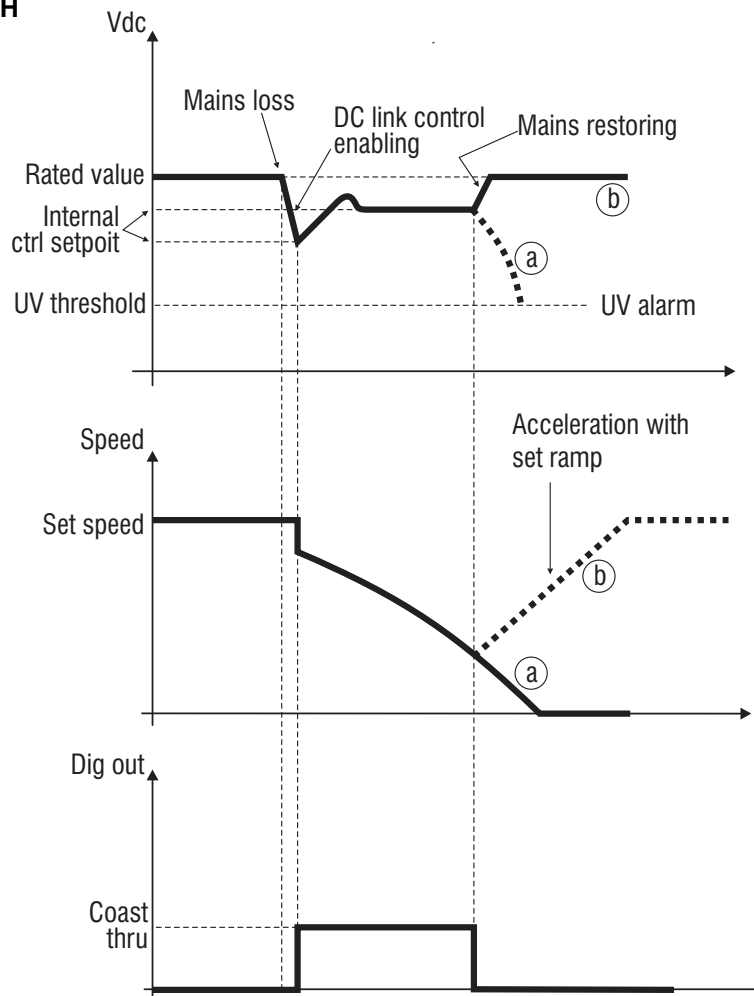

Figure 7.6.11: Coast through
P.343 = 0 Disable	A mains power loss, will trip the drive for undervoltage alarm (UV)
P.343 = 1 Coast Through	See figure 7.6.11